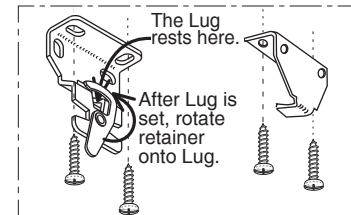

Fig. 5 Install Brackets
Step 4. Install the brackets on the wood board according to Fig. 5, if the clutch is on the right end of the shade. If the clutch is on the left end of the shade, reverse the brackets, left and right.
Step 6. Push the roller clutch straight onto the blade of its bracket. The bottom of the clutch should always point straight down. Lower the lug of the end plug onto the "V" of its bracket. The roller should fit in the brackets securely, with just a little free play. Rotate the riveted retainer arm to lock the lug in position (See Fig. 5 and 6).